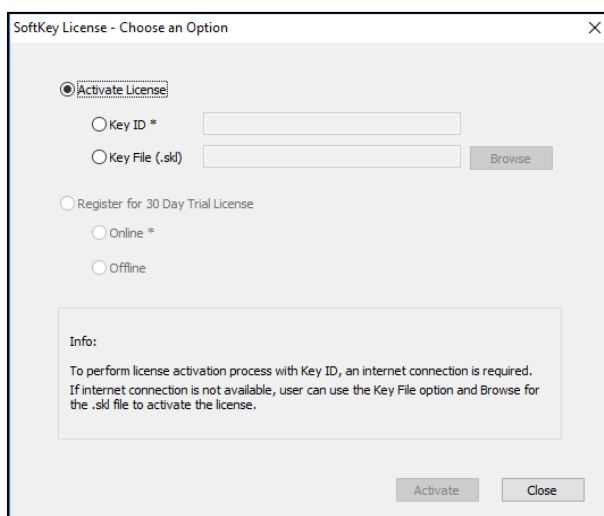

Figure 8. Activate License
- a. From the **CHOOSE AN OPTION** page (Figure 8), select **KEY ID**.
- b. From the **CHOOSE AN OPTION** page (Figure 8), select **KEY FILE (.skl)**.